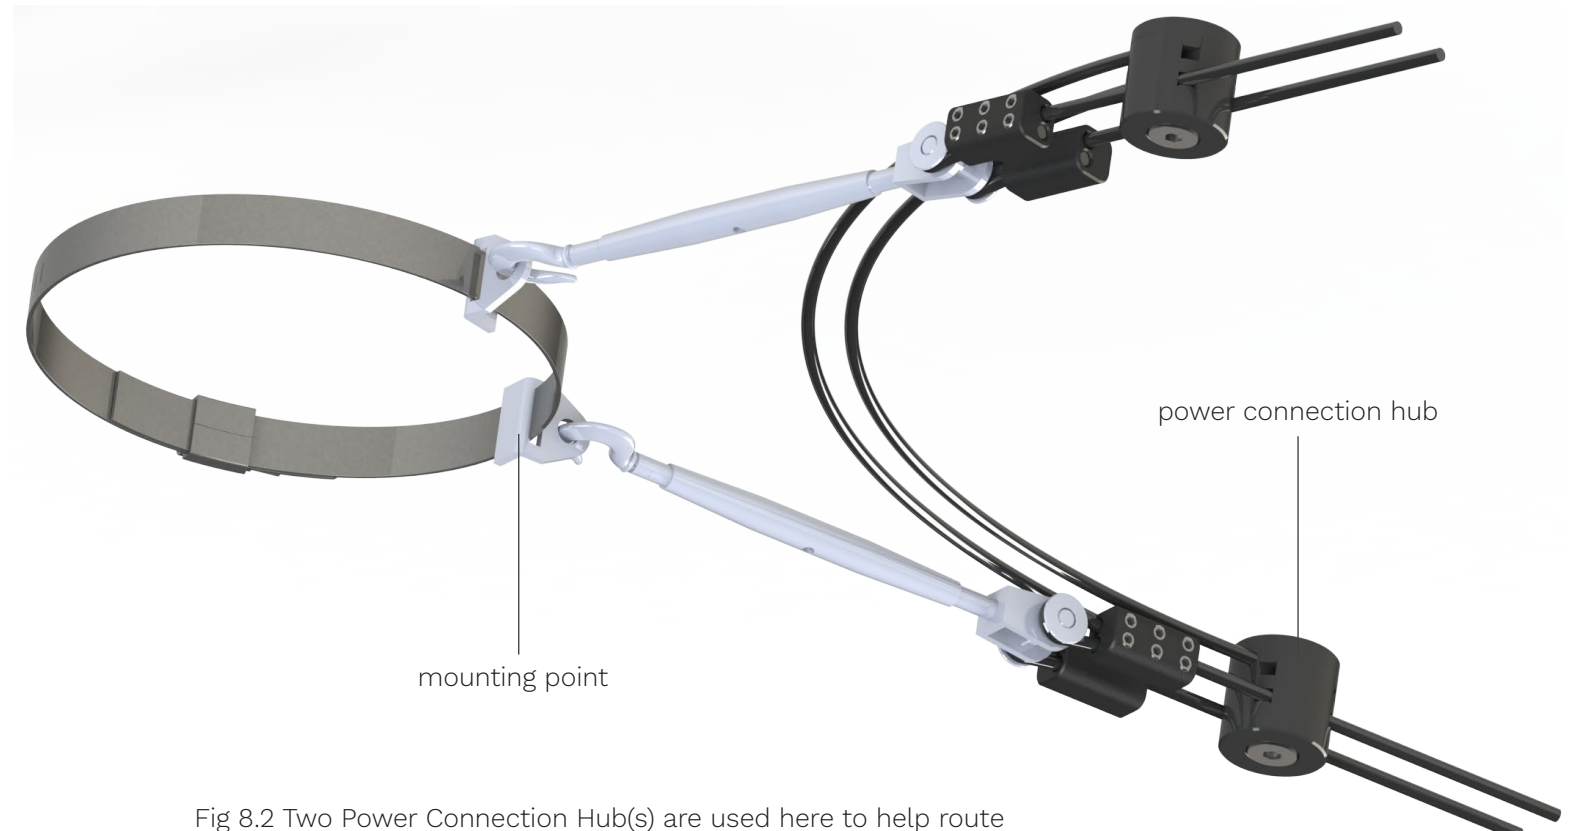

Fig 8.2 Two Power Connection Hub(s) are used here to help route power near a mounting point. Power Connection Hubs are available to order from your supplier.
*Note! Power Connection Hub(s) (See Fig 8.2 on following page) are available to help route power between runs. They can also provide a neater finish at power entry.*